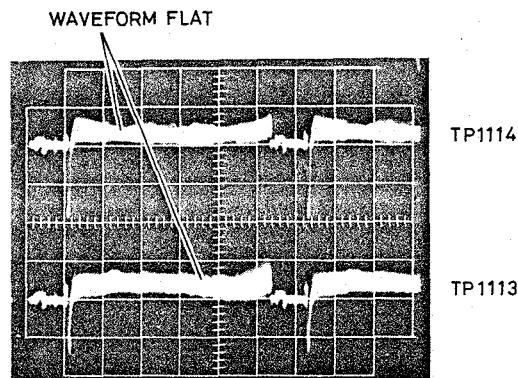

Fig. 4-40 R and B Signal Tracking Adjustment
* Adjustment using oscilloscope (Figs. 4-40)
* Adjustment using vectorscope (Figs. 4-40, 4-41)